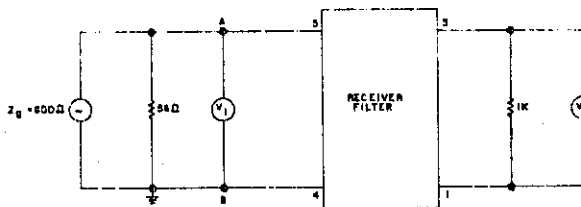

Figure 4 - Circuit for Testing Receiver Filter
B. Using a 600 ohm internal impedance signal generator, connect receiver filter into the circuit shown in Figure 4. Be sure that carbon resistors only are used, as the coils in wire-wound resistors introduce an inductive voltage and the readings will be incorrect.
C. Set the frequency of the signal generator to the center frequency of the filter. Set the output of the signal generator, measured across points A and B as shown in the diagram, Figure 4, at 0.24 V (-10 dBm) (1 mv, 600 ohms reference).